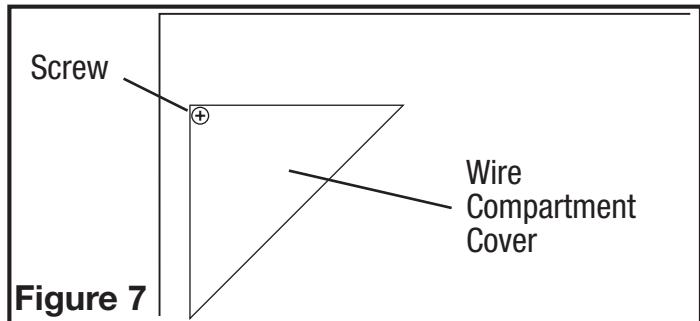

Figure 7
- 1a. **External Wire Compartment:** Remove the wire compartment cover screw and place cover in a secure place (**Figure 7**).